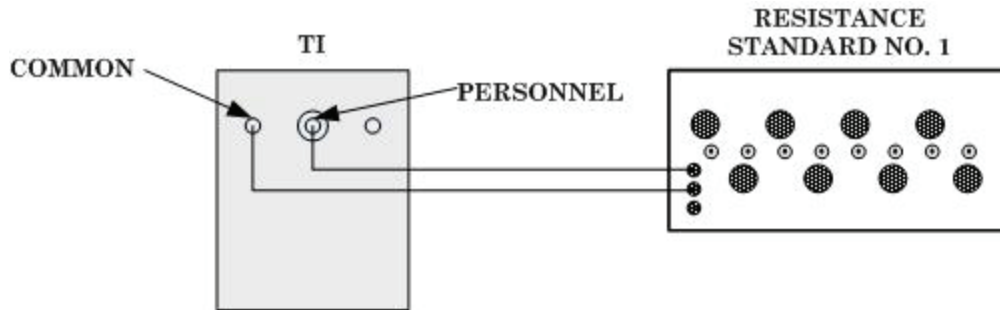

Figure 4. Performance check setup for less than 1 megohm (personnel).
- (1) Short **COMMON** and **PERSONNEL** terminals on TI.
- (2) Push **PRESS TO TEST** button on TI and zero the meter. Release button.
- (3) Remove shorting lead from TI.
- (4) Connect equipment as shown in figure 4.